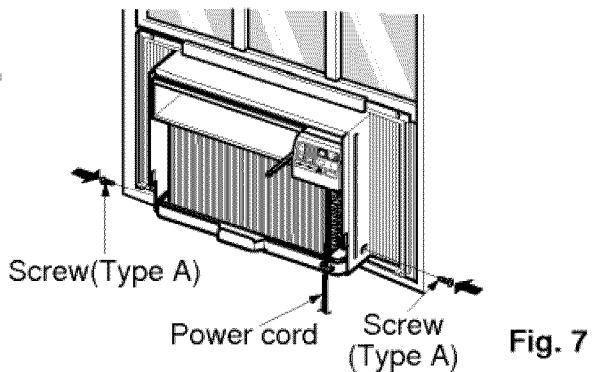

Fig. 7
- 10** Slide the unit into the cabinet. (See Fig. 7)